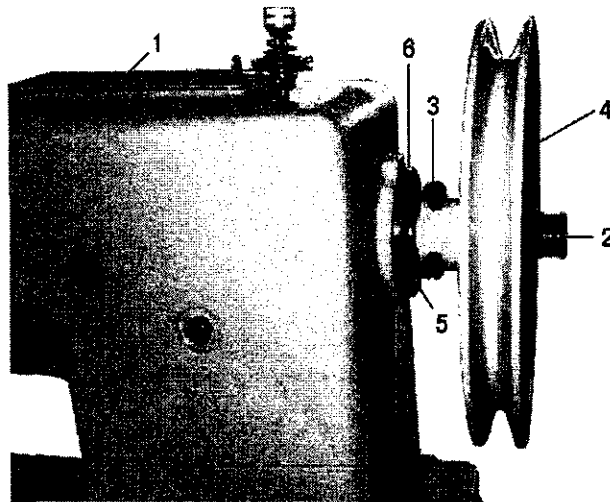

Fig.37
B. Replacement of the connection belt when damaged. (Figs. 37 & 38)
2. Slide the connection belt (A) off from lower and upper belt pulley.
3. Loosen the machine pulley adjustment screw (2) and two set-screws for the machine pulley (3) , then remove the machine pulley.
4. Loosen the three screws in the arm shaft bushing (5) and remove the bushing (6) .
5. Lift the belt up through the arm cap hole after removed the bushing (6) as far as possible and draw it out through the space normally occupied by the bushing.